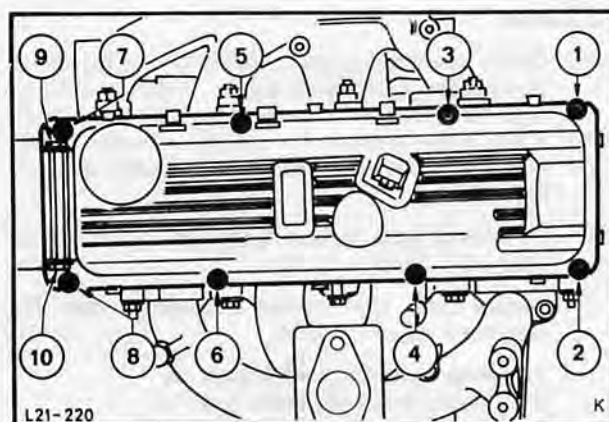

Fig. 119. Rocker cover bolt tightening sequence
64. Torque rocker cover bolts as specified in four stages, proceeding in sequence specified, Fig. 119.